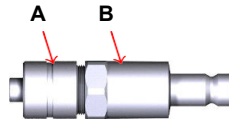

Figure 4.7.: Self-sealing coupling plug to be connected to cooling water hose (cap nut A and coupling plug B)
- a) Unscrew the cap nut A from the coupling plug B; see figure 4.7 on page 21. Push the cap nut on the hose. Push the hose tip on the coupling plug and screw the cap nut to the coupling plug again. Proceed the same way with the second hose.